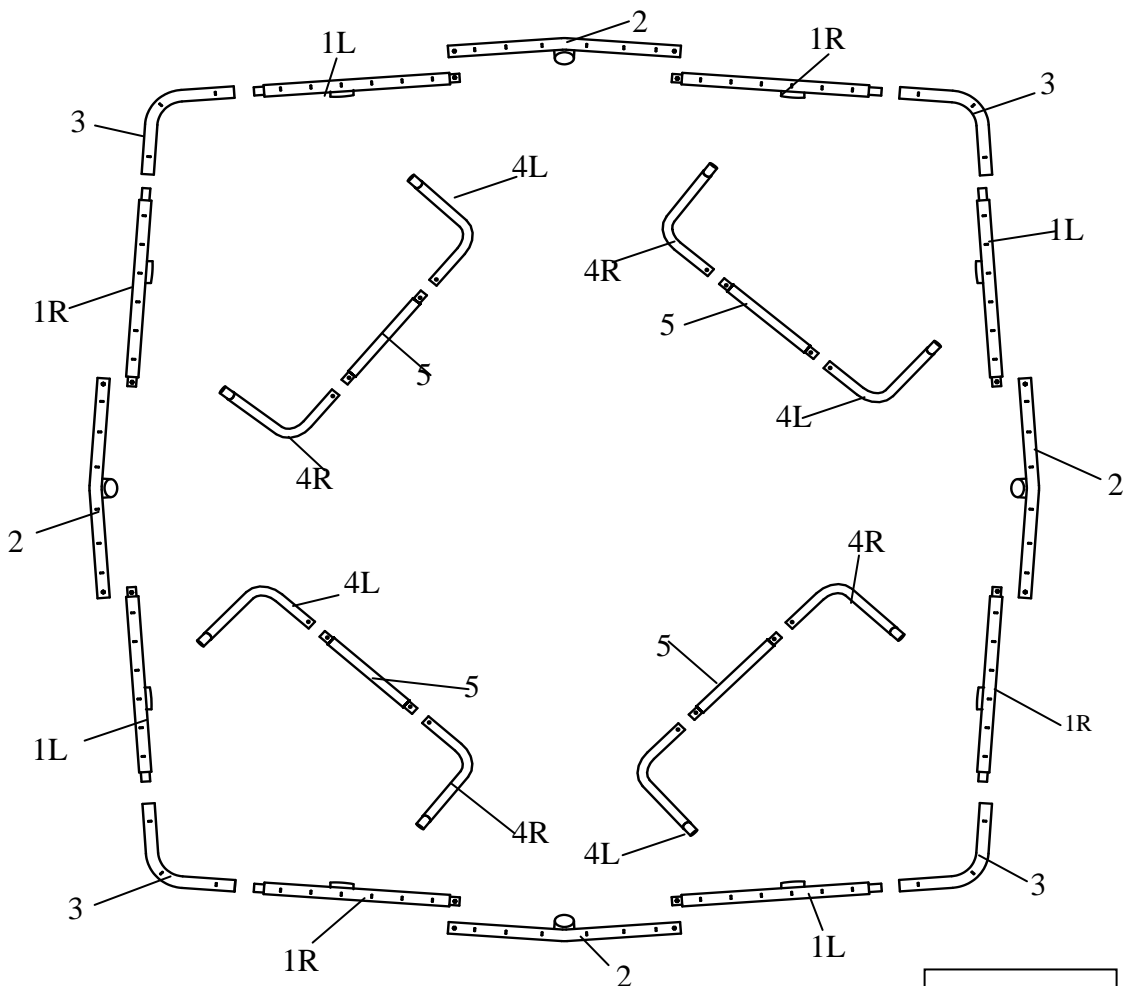

FIGURE 1
- There are a total of 28 pieces of tubing parts that are needed to assemble the trampoline frame. Lay out all the parts as shown in FIGURE1.
- Some of tubing parts are labeled with “R” (Right) and “L” (Left). Please assemble those parts with the direction as shown in FIGURE1.